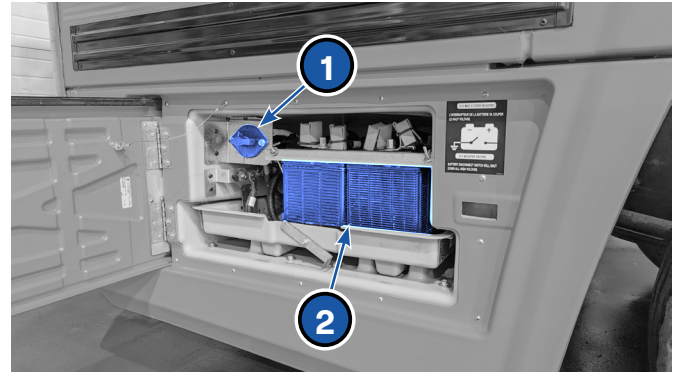

Figure 25 - 12 V battery box and safety switch
- Battery disconnect switch (low voltage only) (Figure 25 no. 1)
- Two 12V batteries (Figure 25 no. 2)